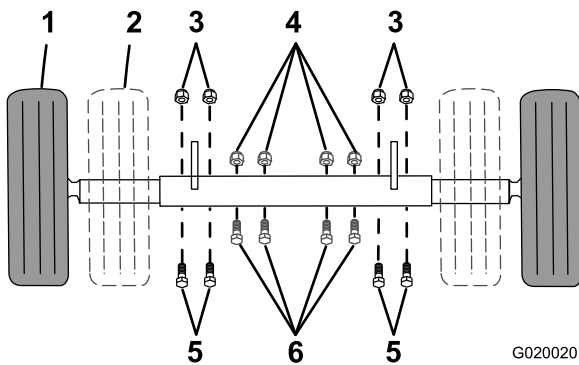

Figure 24
1. Support point (2)
- Remove the bolts and nuts that secure the inner axle to the outer axle (Figure 24).
- Slide each side of the axle inward to the narrow position (Figure 24).
- Slide each side of the axle outward to the wide (tow) position (Figure 24).
- Insert the bolts through the axle holes (Figure 24).